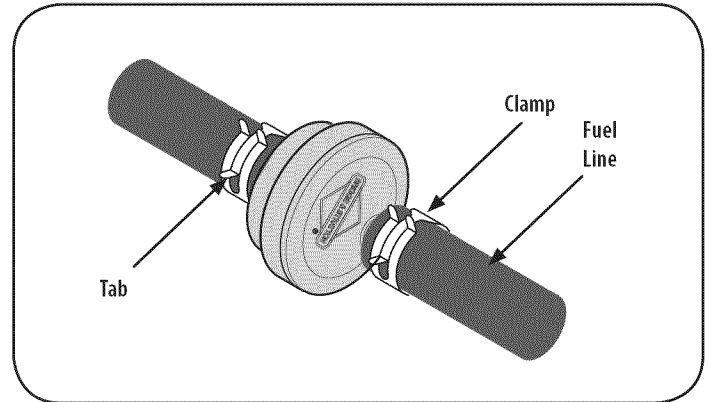

Figure 14
1. Use pliers to squeeze the tabs on the other clamp (the out-line side of the fuel filter), then slide the clamp away from the fuel filter. Twist and pull the fuel line off of the fuel filter. See Figure 14.